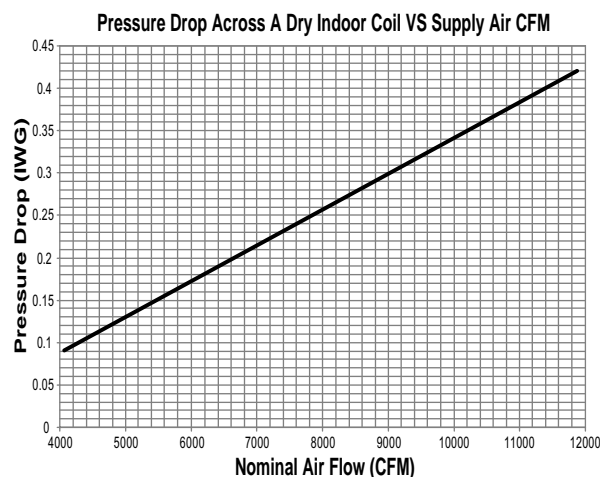

Figure 20: Pressure Drop Across A Dry Indoor Coil Vs. Supply Air CFM For All Unit Tonnages
4. Knowing the pressure drop across a dry coil, the actual CFM through the unit can be determined from the curve in Pressure Drop vs. Supply Air CFM Figure 20.